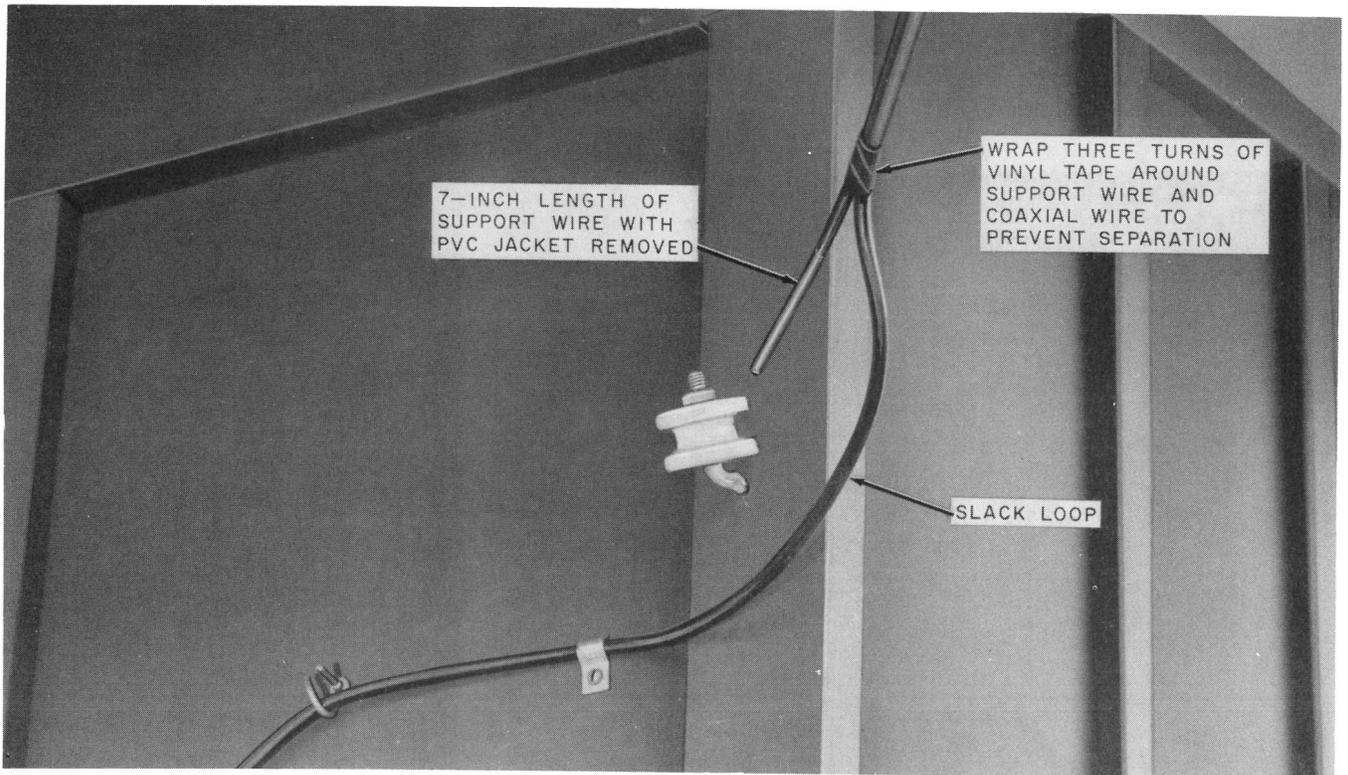

Fig. 2—Support Wire Separated From Coaxial Wire and PVC Jacket Removed
4.03 Slit the web between the support wire and coaxial wire for approximately 7 inches and remove the PVC jacket from the support wire (Fig. 2).